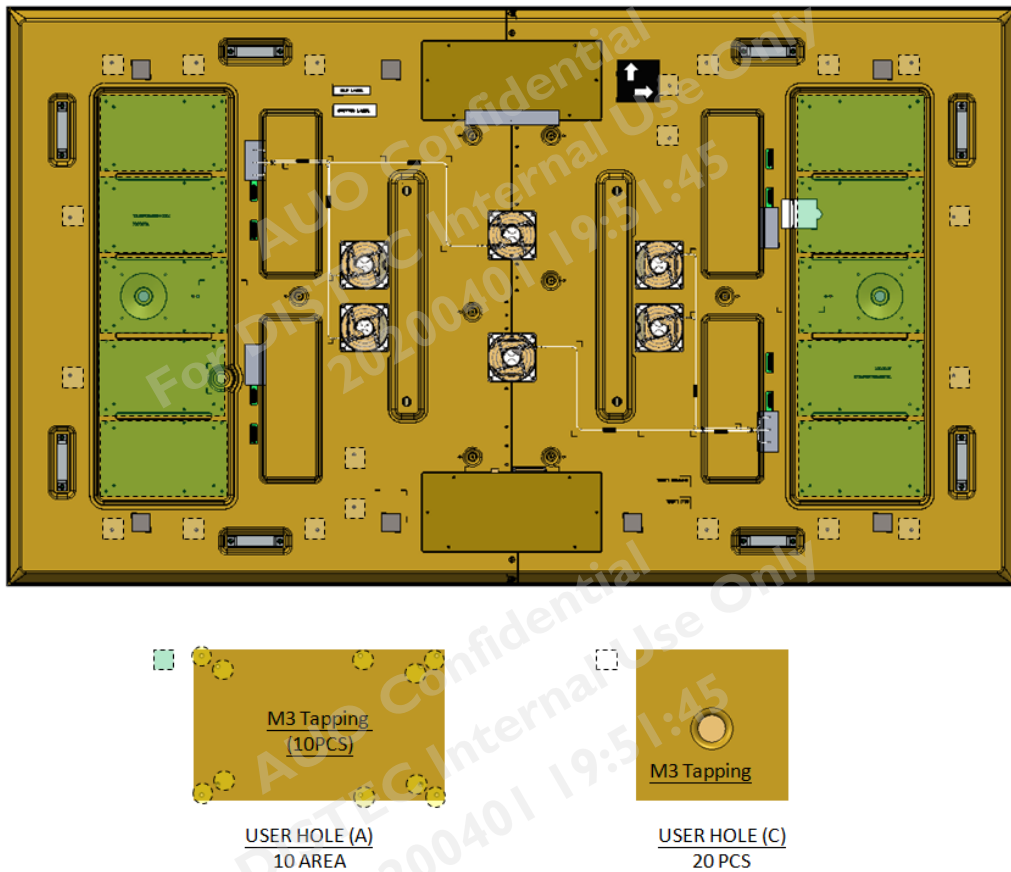

Figure 1
- (1) AUO module dust test is conducted with marked holes (see Figure 1) sealed to comply with JIS D0207 .
- (2) Module users should design set with these holes used/sealed (if not used) or covered by set mechanism to prevent dust from entering. The AUO testing procedure cannot replicate all different real world scenarios, module users should apply set dust resistance solution to meet users' requirement.